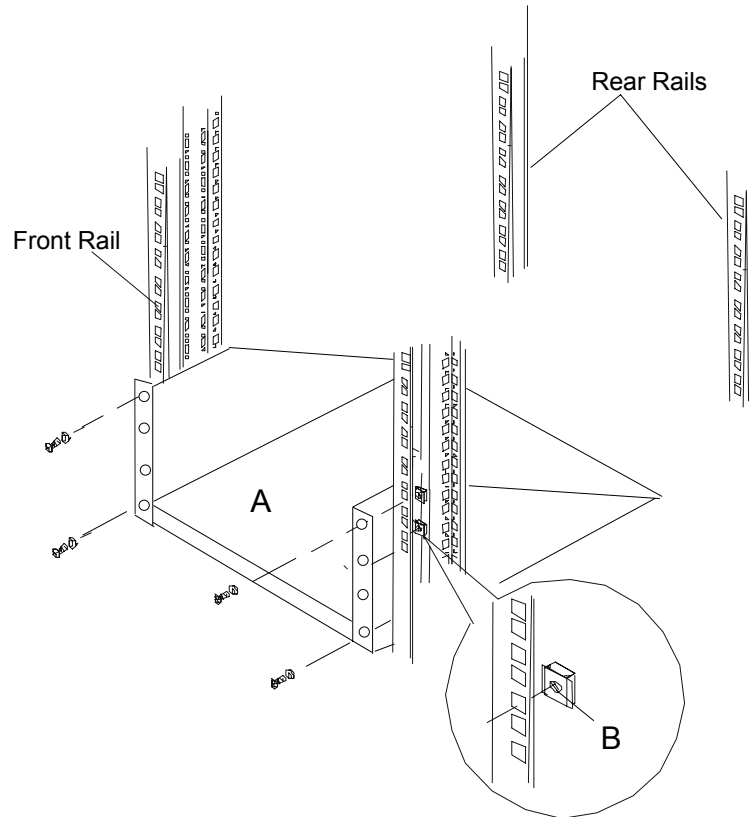

Figure 5-14. Monitor Tray and Mounting Hardware
2. Install the four M6 cage-nuts that will secure the front of the monitor tray to the front rack rails. Position the cage-nuts to align with the screw holes in the front of the tray. See Figure 5-14, A.